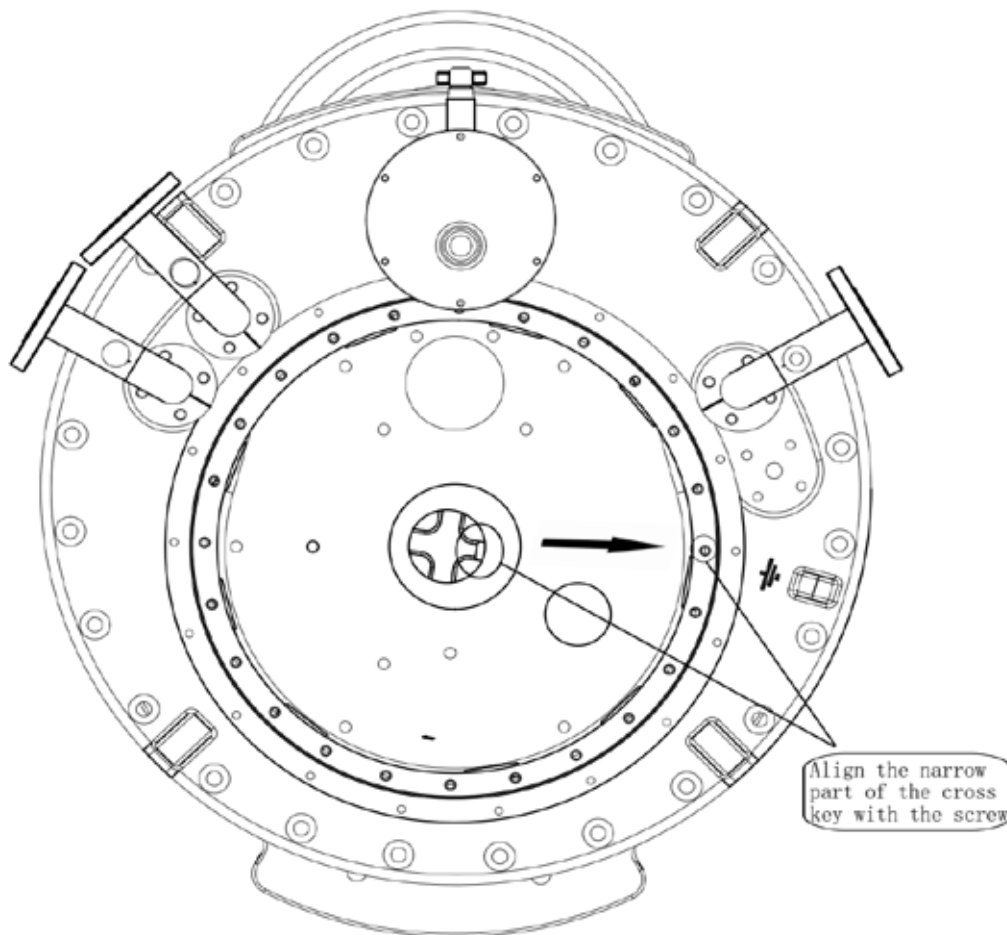

Figure 4.2.1 Schematic diagram of setting position
4.2.1.3 Remove the on-load tap-changer head cover. (see Figure 4.2.1).